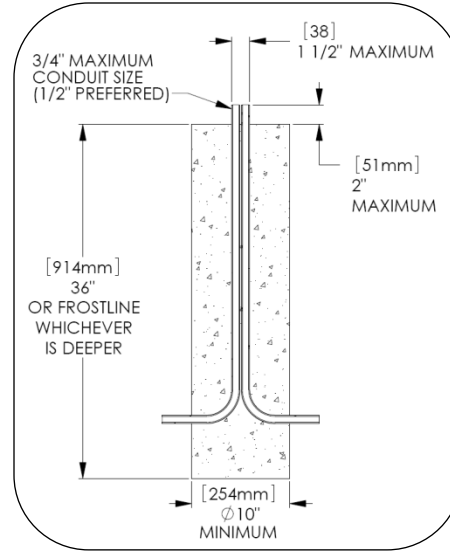
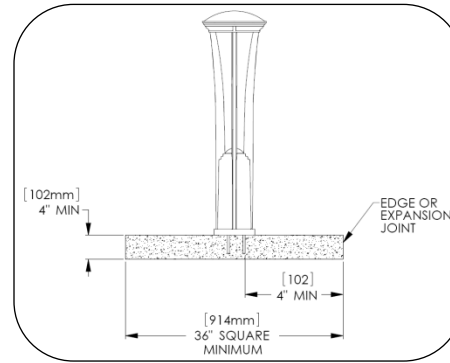
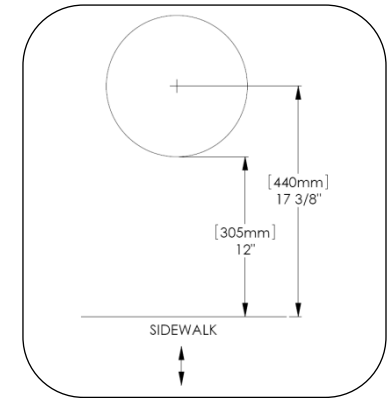

Fig. 1 – Minimum footing recommendation
Fig. 2 – Minimum concrete slab size
Fig. 3 – Recommended setback from sidewalk
1. Prepare footing as required by local codes, see Fig. 1, Fig. 2 and Fig. 3 for recommendations.